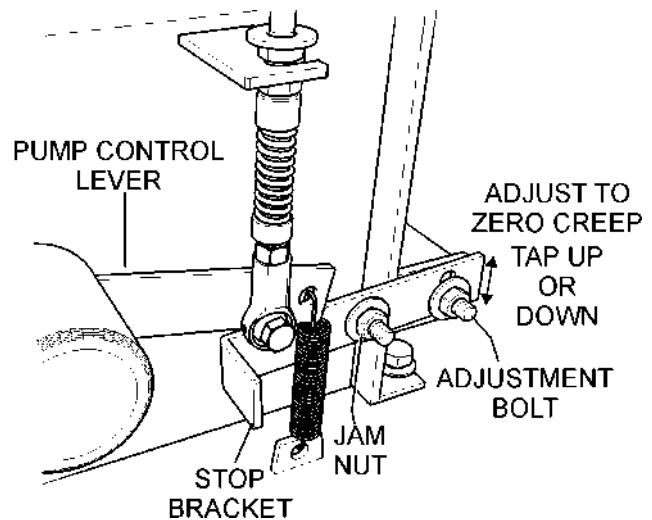

Figure 46. Pump Control Lever Adjustment
2. Locate the **pump control lever** adjustment bolt (Figure 46).